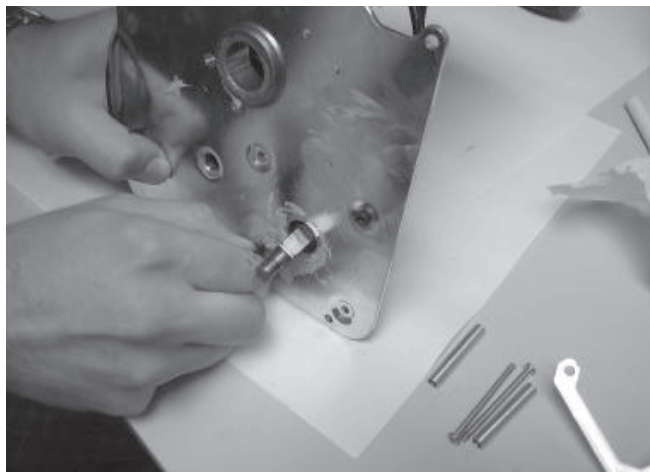

Figure 18.
- 4.20 Align the new motor/gearbox to the mounting holes and re-install the socket-head cap screws and lock-washers. Thread them in by hand if possible and do not tighten, at this point, see Figure 18.